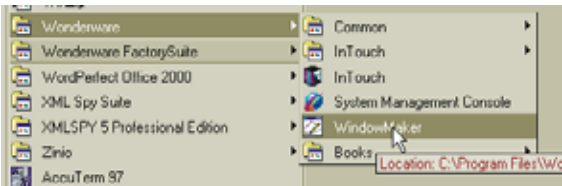

FIG. 238: WONDERWARE/OPENING WINDOWMAKER
- Step 18. Open Wonderware WindowMaker. (See Fig. 238)